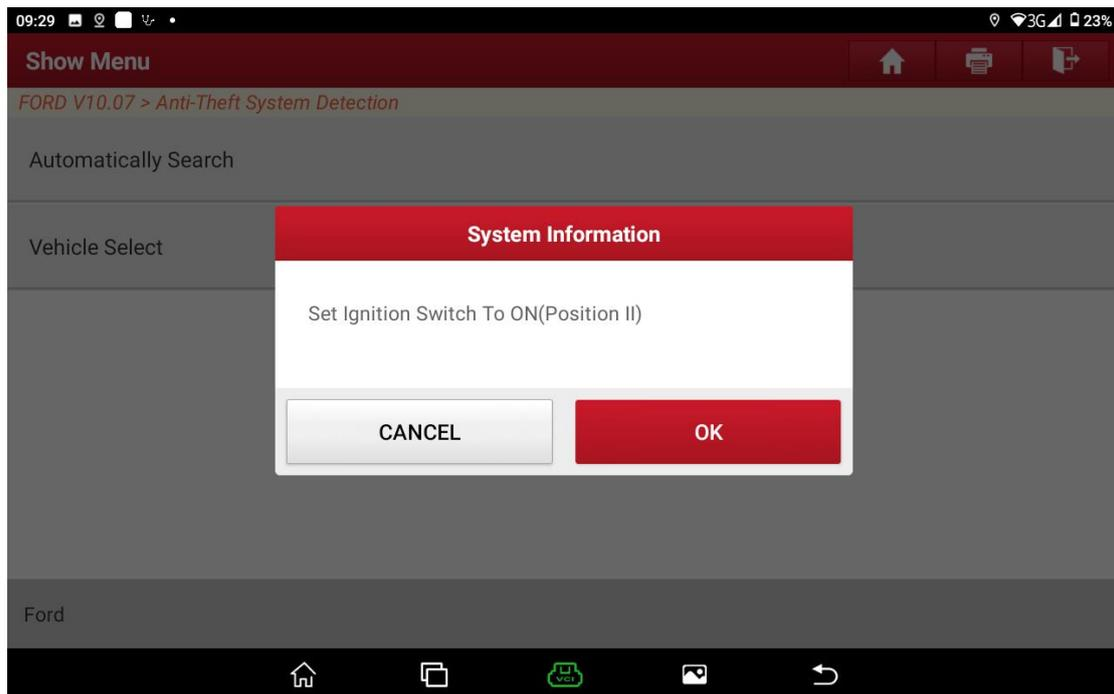

图 4
2. Turn on the ignition switch. See Figure 4.